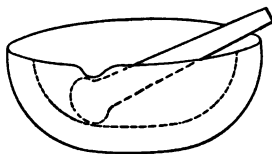

FIG. 1.
M. Now we will break it up still smaller in this thick little porcelain dish, which is called a mortar. For that we will use this thick rod, which is called a pestle (Fig. 1).